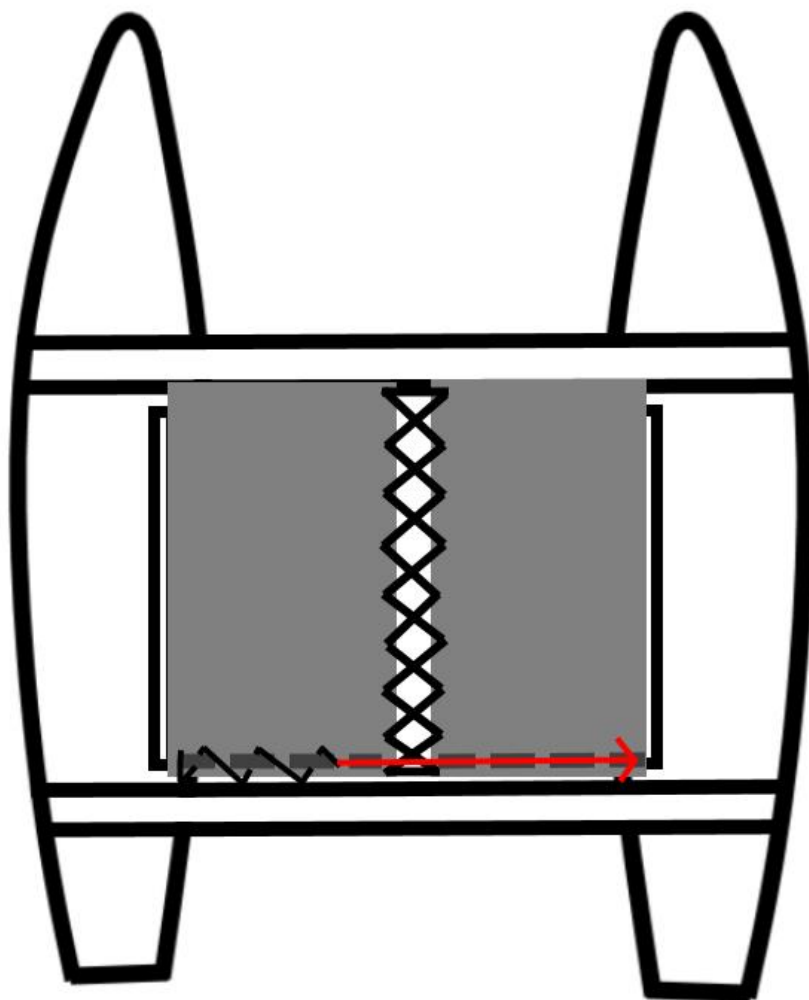

FIGURE 5: Lace Aft portion of both trampoline halves – through sail slides and around PVC pipe – from one side to the other.
Step 6: *Aft Lacing the Trampoline:* Tie a Bowline knot around the outermost sail slide found in the forward track of your rear beam. Begin lacing the PVC pipe to each subsequent sail slide using a zig zag pattern until you have reached the last sail slide on the far end. Tie the final knot in the last sail slide with a few Half Hitch knots. See **Figure 5**.